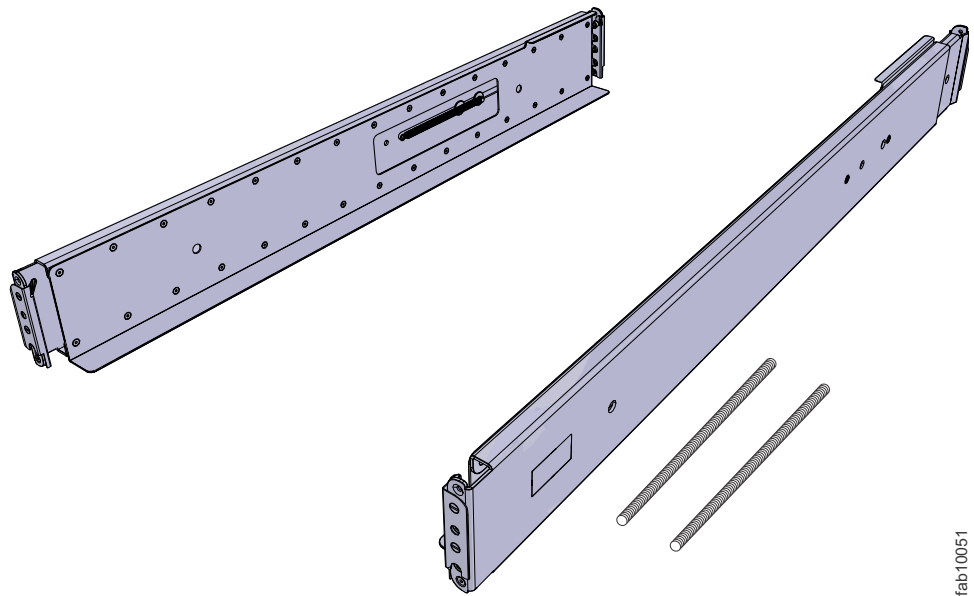

Figure 8. Control enclosure support rails
1. Locate the control enclosure rails (Figure 8). The rail assembly consists of two rails that must be installed in the rack cabinet.